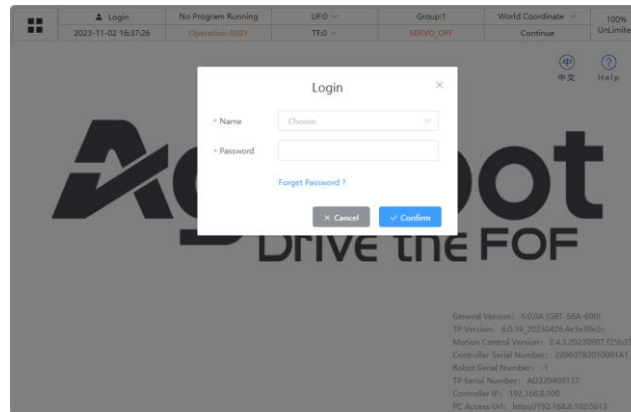

Fig. 3.5 Login Popup
1. Click on the login window of the TP screen, and the screen shown in Fig. 3.5 will pop up. Click on "Name" and select "admin", enter the password "123", and then click "Confirm" to log in.